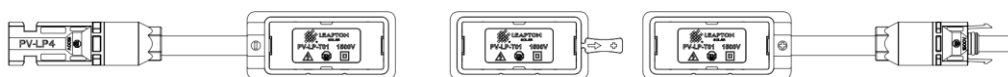

Figure 14: Half cells/Transparent backsheet solar module junction box
H) Define the length of the junction box cables as (different installation methods correspond to different cable lengths for different solar module types), or as required by customers on the length of the cable. As shown in Figure 14 below, please consider the length of the lead wire before designing the cable. It is not recommended to plug different types of connectors.